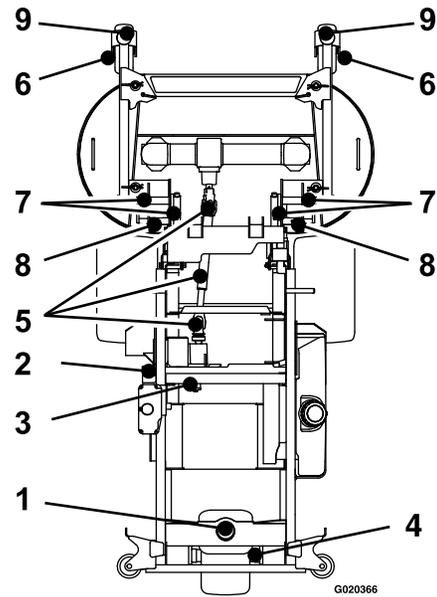

Figure 28
- Lubricate the pump-belt idler arm (Figure 28).